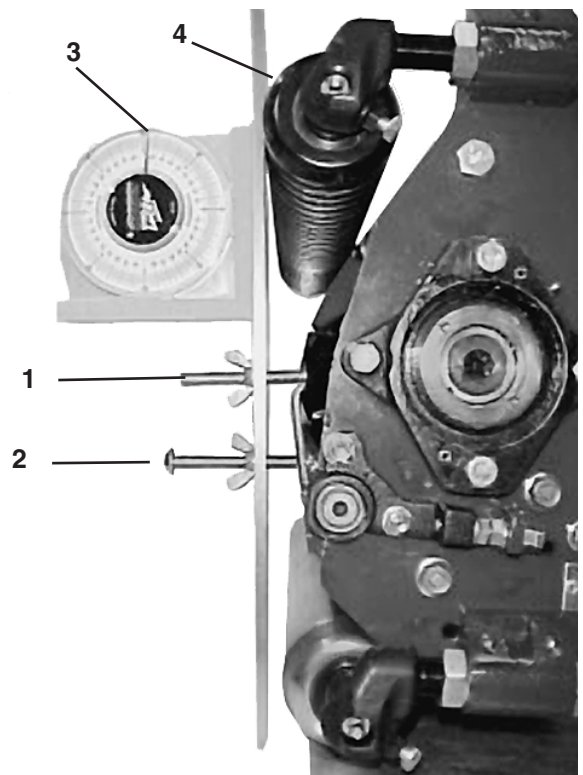

Figure 10
4. Place the gauge bar across the front and rear rollers. The first screw head must fit snugly over edge of the bedknife, while the gauge bar contacts the front roller (Fig. 10).
6. Place an angle indicator on the gauge bar and record the gauge bar angle (Fig. 10).
Note: Moving the front roller down will decrease cutting unit attitude, while moving the front roller up will increase cutting unit attitude (Fig. 10).